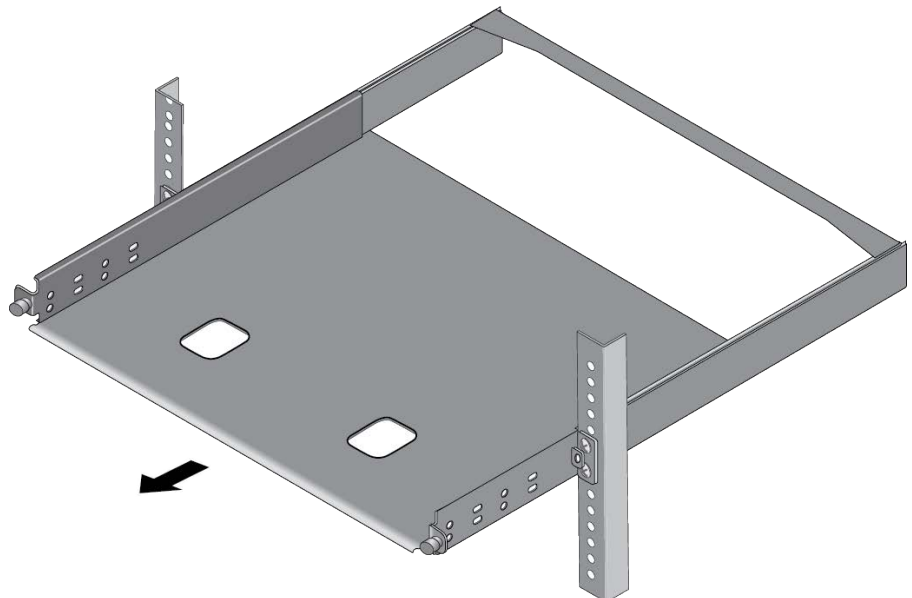

Figure 39. Sliding Out the RKMT-J15 Equipment Rack Tray
6. Slide out the tray. Refer to Figure 39.